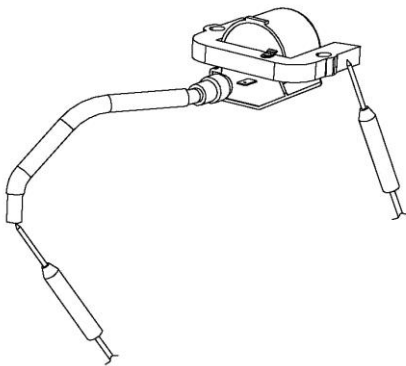

Figure 4-11: Secondary Ignition Coil Test
2. See Figure 4-11. Place one meter lead on the spark plug lead, and one on the coil ground as shown. Be certain grounding point is clean in order to obtain an accurate reading